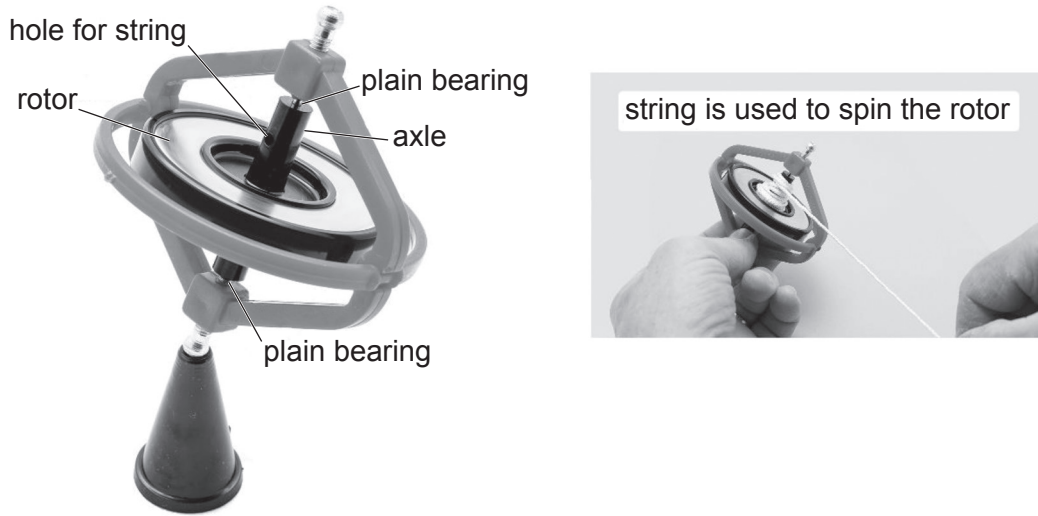

Fig. 10.2
- (b) Fig. 10.2 shows a toy gyroscope used to demonstrate how a spinning rotor can be used to stabilise motion.